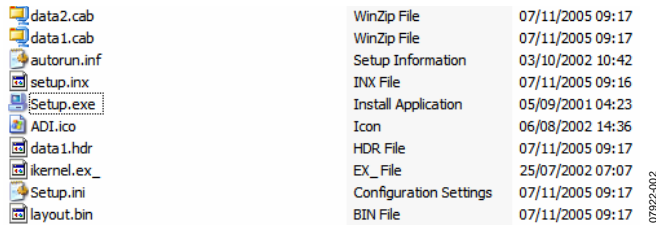
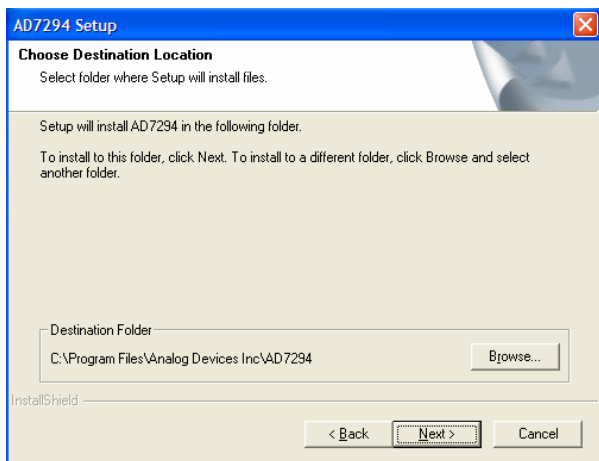

Figure 2. Select Setup.exe File
Figure 3. AD7294 Choose Destination Location Window
3. In the **AD7294 Installation** folder, double-click **Setup.exe** (see Figure 2) and install the software onto the hard drive of the computer by using the installation wizard (see Figure 3). It is recommended to install the software in the default destination folder path, **C:\Program Files\Analog Devices Inc\AD7294**.